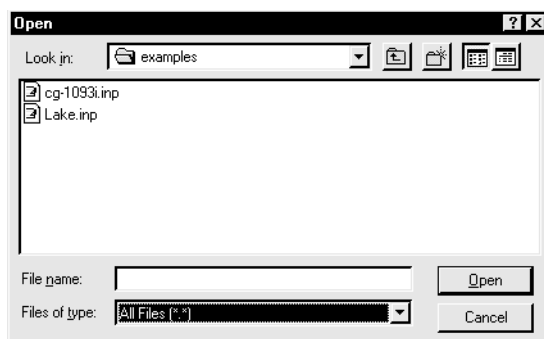
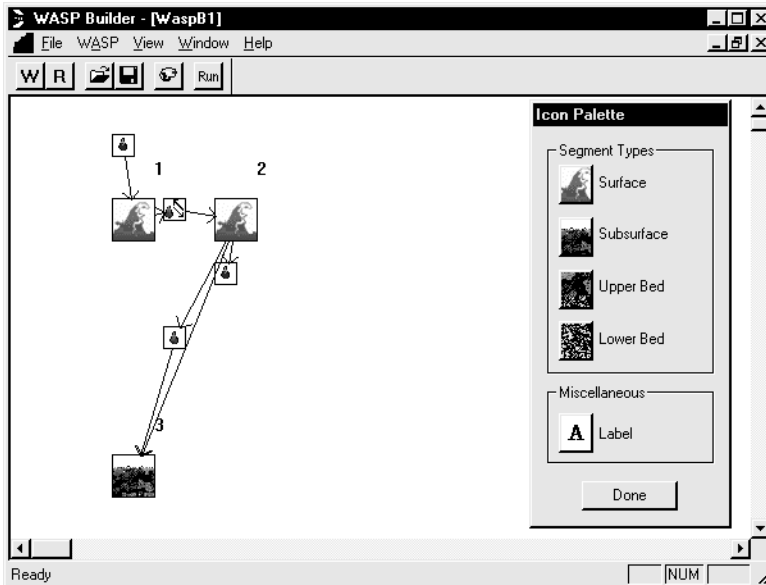

Figure 8: Opening an Input File from the Examples Directory.
Figure 9: Lake Network from Examples Directory.
2. Select the **Lake.inp** file in the **Open** window (Figure 8). A simple network will be displayed in the main window and the icon selection menu will be displayed, see Figure 9.